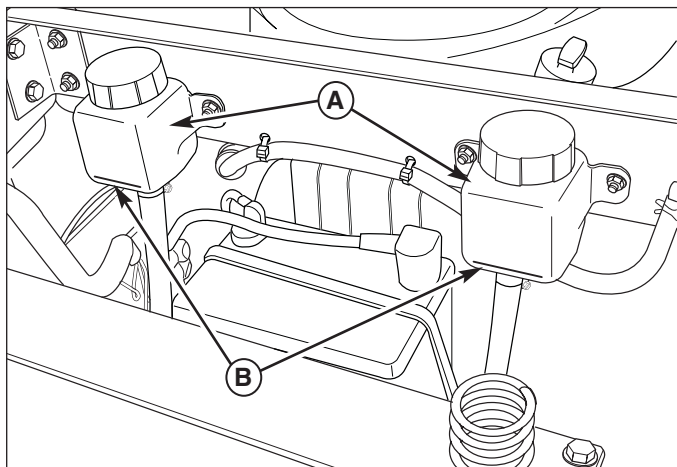

Figure 6. Transmission Oil Fill Level
1. Check the oil level when the unit is cold. Raise the seat plate to gain access to the transmission oil reservoirs (A, Figure 6). The oil should be up to the "FULL COLD" mark. If the oil is below this level, proceed to step 2.
3. Add oil up to the "FULL COLD" mark (B, Figure 6).